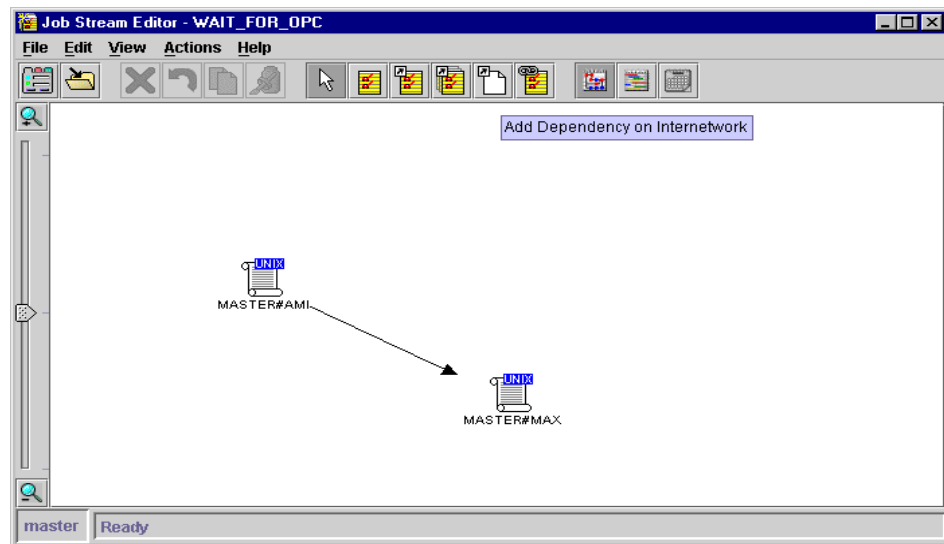

Figure 211. Add Internetwork dependencies
1. Click on the **white sheet icon** as shown in Figure 211 on page 346.